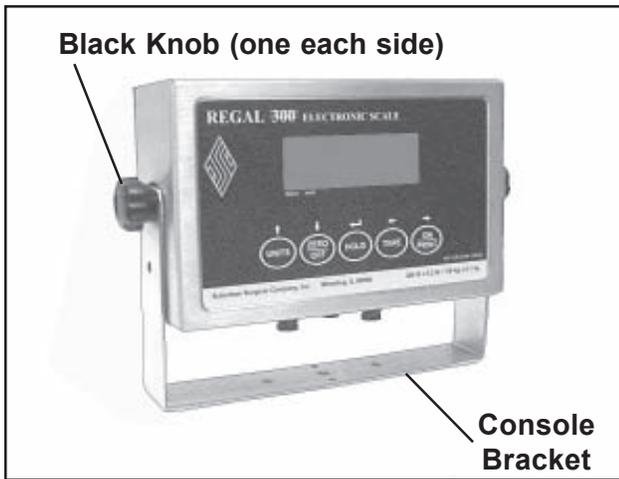

Figure 12. Display Console in Console Bracket
8. Mount the display console to the console bracket with the two black knobs supplied (Figure 12).